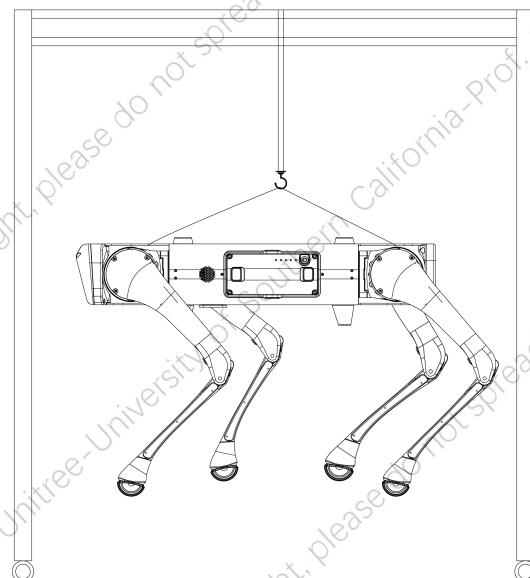

Figure 2: The four legs **cannot** reach the initial position set by the program. At this time, each joint is in a zero torque state (undamped state).
- 2.If the foot end force sensor drifts, the four legs of the robot cannot reach the initial position set by the program, and each joint is in a zero torque state (undamped state), as shown in Figure 2 below.